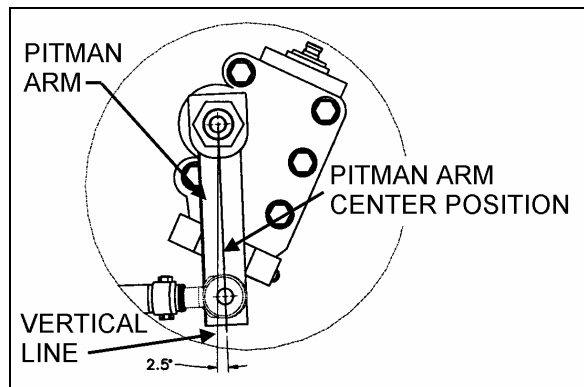

FIGURE 15: PITMAN ARM ADJUSTMENT 14037
2. Using a protractor, check the angle of the pitman arm (refer to Fig. 15 for details).